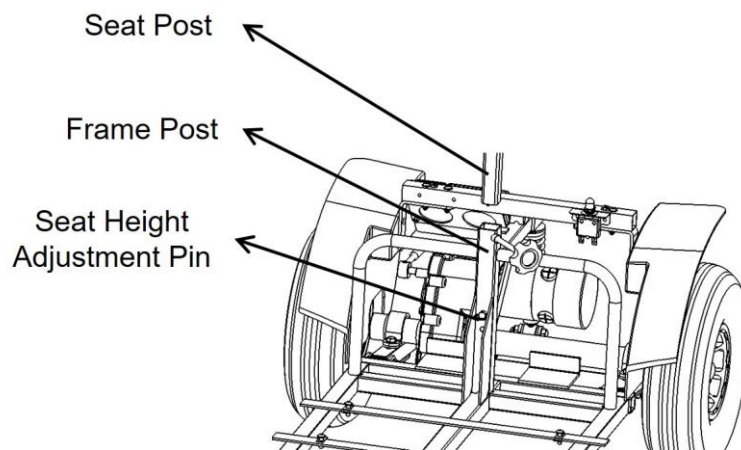

FIGURE 7.8
7.14.1 The seat post rests on a seat height adjustment pin that runs through the center of the frame post. There are two holes in the frame post that allow you to adjust the seat height to 17.5"(44.5 cm) or 18.5"(47 cm). The adjustment pin is nestled between the two batteries and is hidden behind the main wiring connected from the central relay box (controller) to the front of the scooter. (See Figure 7.8)